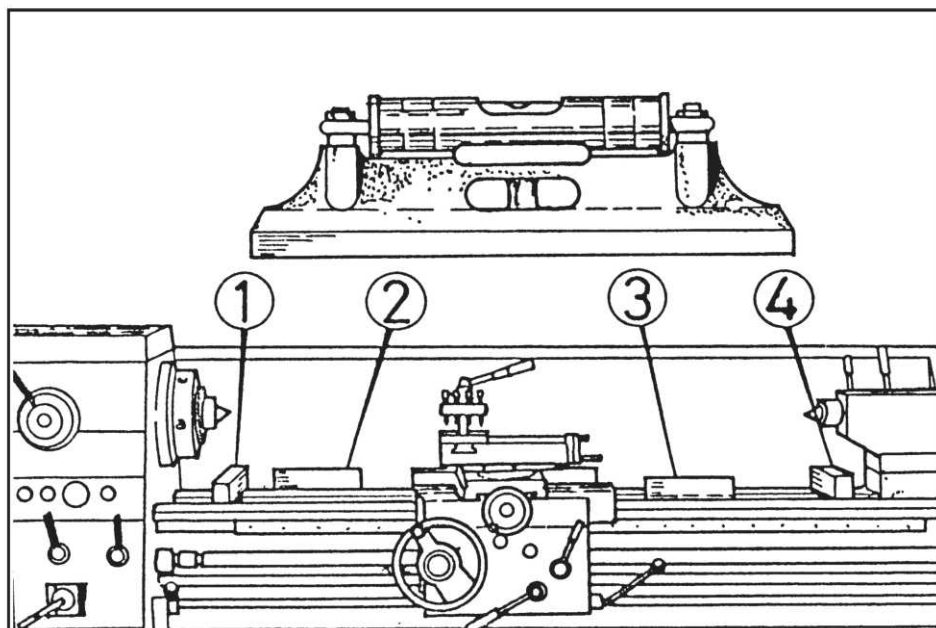

Fig. 2
Position lathe on foundation and adjust each of the eight/ten mounting feet to take equal share of the load. Then using a machinist's precision level on the bedways (as in Fig 2) adjust the feet to level up machine. Periodically at least every six (6) months check bed level to ensure continued lathe accuracy.
Position lathe over eight/ten bolts (5/8 in. or 16mm. diam.) set into the foundation to correspond with holes in the mounting feet; dimensions are shown on foundation Plan. Accurately level the machine, as in Fig. 2 then tighten hold-down bolts. Re-check bed level.